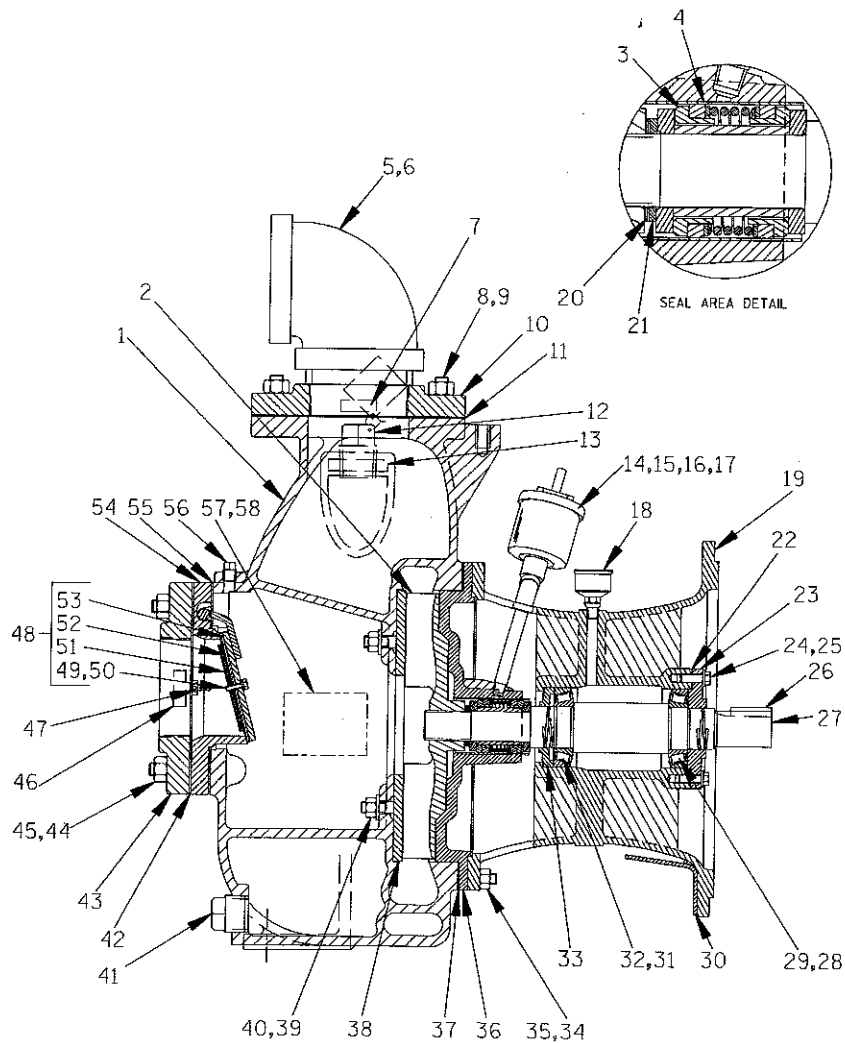

Figure 2. 84A2-(SAE 4/10) Pump End Assembly
(Figure 2)
If it is necessary to separate the intermediate and drive assemblies from the engine, support the intermediate using a hoist and sling, and remove the hardware (6 and 7) securing the intermediate to the engine bellhousing. Remove the intermediate guards (30, Figure 2), and separate the assemblies by pulling the intermediate straight away from the engine.
As the assemblies separate, the flexible portion of the coupling assembly (3) will remain on the shaft. To remove the coupling from the shaft, unscrew the two allen head setscrews from the bushing (2). Screw one of the setscrews into the puller hole on the circumference of the bushing. As the coupling and bushing separate, remove the bushing, and slide the coupling off the shaft. Remove the shaft key (26, Figure 2).